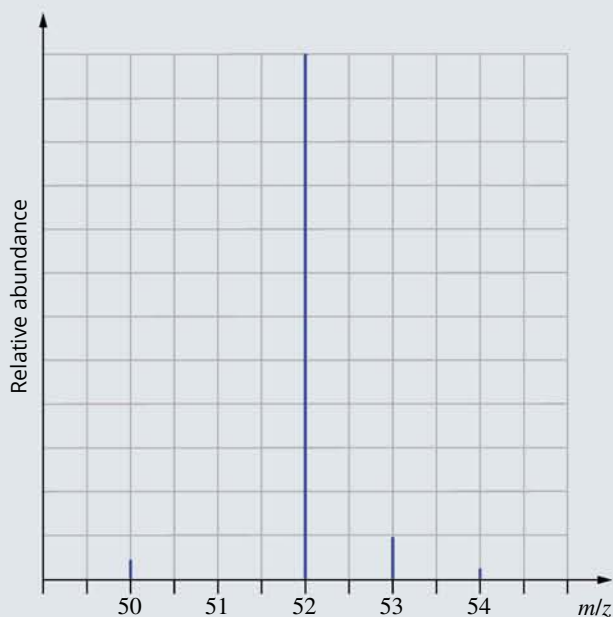

FIGURE 5.5.1 Mass spectrum of chromium.
- The mass spectrum of chromium is shown in Figure 5.5.1.